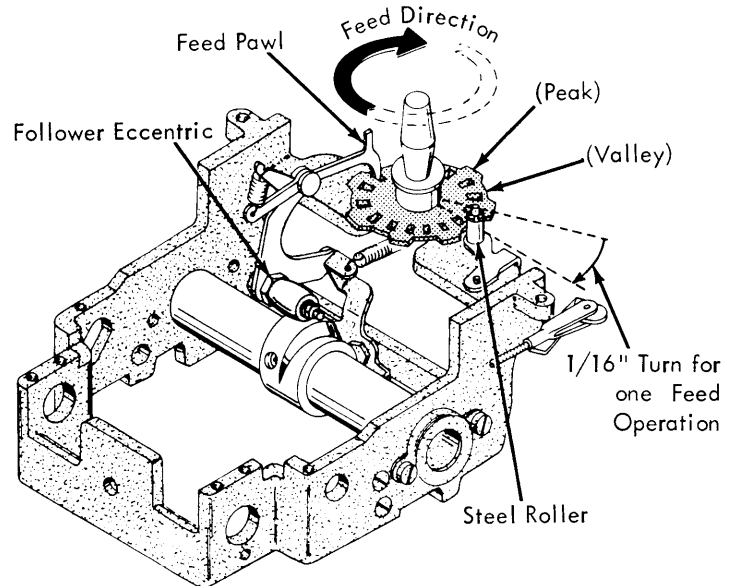

FIGURE 191. Feed Cam Follower Eccentric
2. Feed Cam Follower Eccentric - Adjust the follower eccentric so that the feed pawl will rotate the feed and lift wheel $1/16$ of a turn for each ribbon feed operation (Fig. 191).
This adjustment may be checked in the following manner: With the machine at rest manually position the feed and lift wheel so that the steel roller on the lift control lever rests approximately in the center of a valley (high lift lobe) on the feed and lift wheel (Fig. 191). Now, perform a ribbon feed operation by hand-cycling any character through its complete cycle. Make certain that the cycle shaft returns to its latched position. If the follower eccentric is properly adjusted the feed pawl should rotate the feed and lift wheel $1/16$ of a turn causing the steel roller on the lift control lever to come to rest in the center of a peak (low lift lobe) on the feed and lift wheel (Fig. 191).